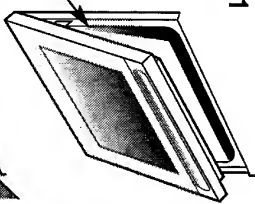

Fig. 1
1. Position top or main oven door as shown in Fig. 1. **NOTE:** The door can be wedged open using a towel between the door and the side trim thus leaving your hands free.